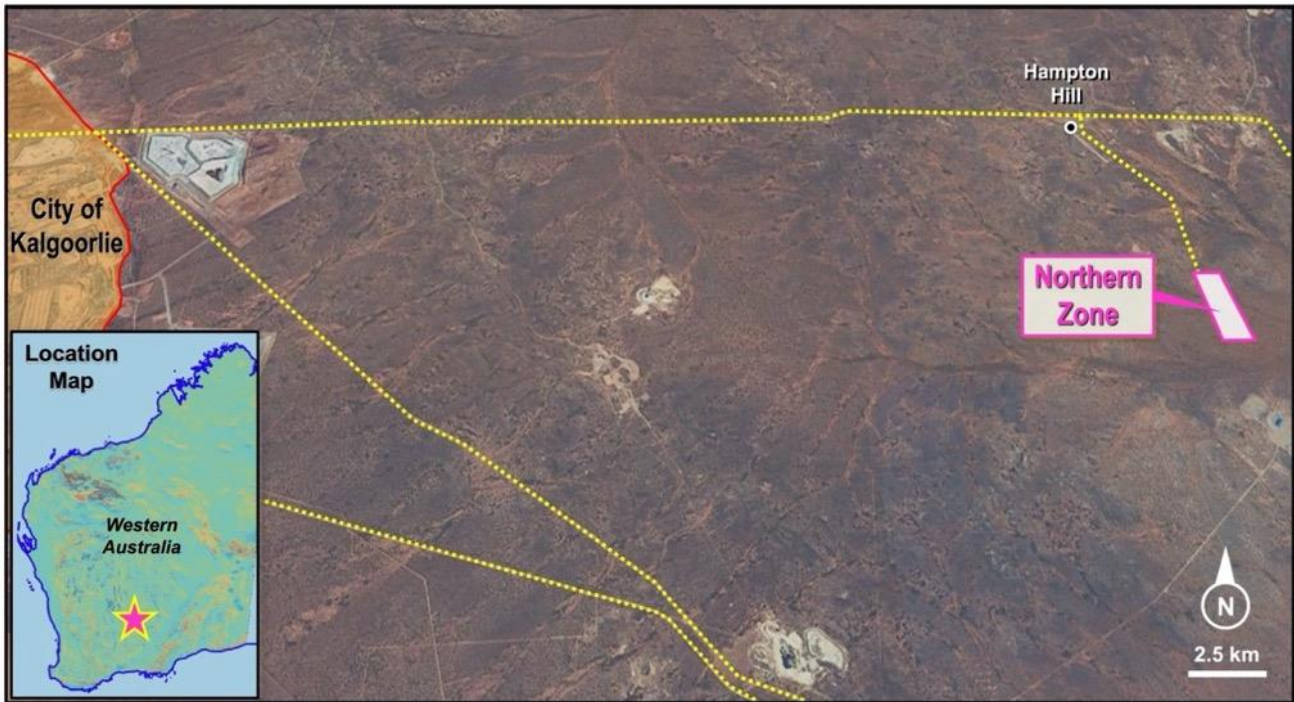

Figure 1: Northern Zone Project Map showing proximity to the Kalgoorlie "Super Pit".
**Riversgold Limited (ASX: RGL, Riversgold or the Company)** is pleased to announce that it has received further assay results from aircore (**AC**) drilling undertaken during July 2024 at the Northern Zone Intrusive Hosted Gold Project, located 25 km east-south-east of the Kalgoorlie Super Pit in Western Australia (refer to **Figure 1** for location) and readily accessed from the Bulong road, which is paved to within 9km of the prospect site. The last 9km consists of 4km of a high-quality haul road with the last 5km on a station road.